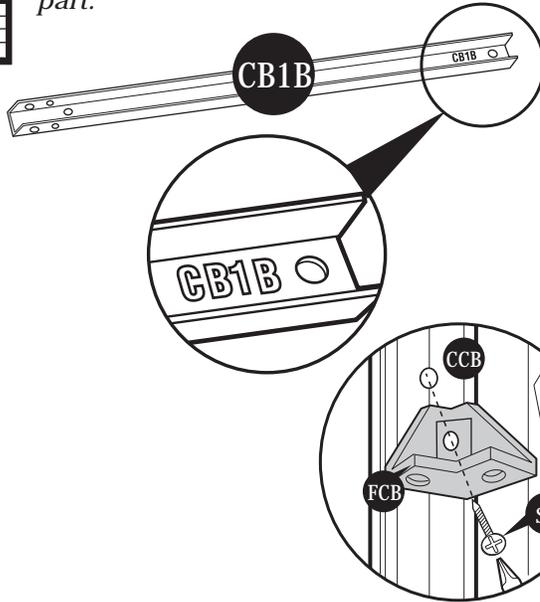

Fig.1: Use (S2) screw. Fix (FCB) to (CCB). Leave it loose.
5. To stabilize the front panel attach the front center band right (CB1B). Start with the center band fitting. Fix to corner column (CCB) with (S2) screws. To continue See figures (fig.1) (fig.2) and (fig.3).